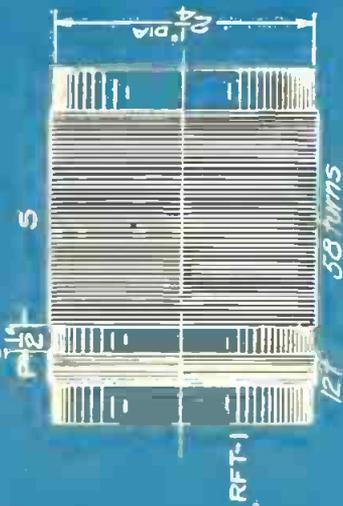

FIG. 1b
At RFT1 we have the usual aperiodic tuning coil with the primary (P) and the secondary (S) which is tuned by the 17 plate (0.00035 mf) variable condenser (C1) connected across the secondary in the conventional manner. A detail of this tuning unit is shown in Fig. 1B, which shows the principal dimensions. There are 58 turns on the secondary and 12 turns on the primary coil (P),
distance of the primary coil (P) from the secondary (S). The greater the distance the looser will be the coupling and the greater the selectivity. This applies to both (RFT-1) and (RFT-2). Usually the best spacing of the coils is as shown by Figs. 1B and 1C, but with some types of audio frequency transformers, this must be increased. The wavelength range is determined by the number of turns on the secondary coils (S), and as shown, will cover a range of from 200 to 600 meters.